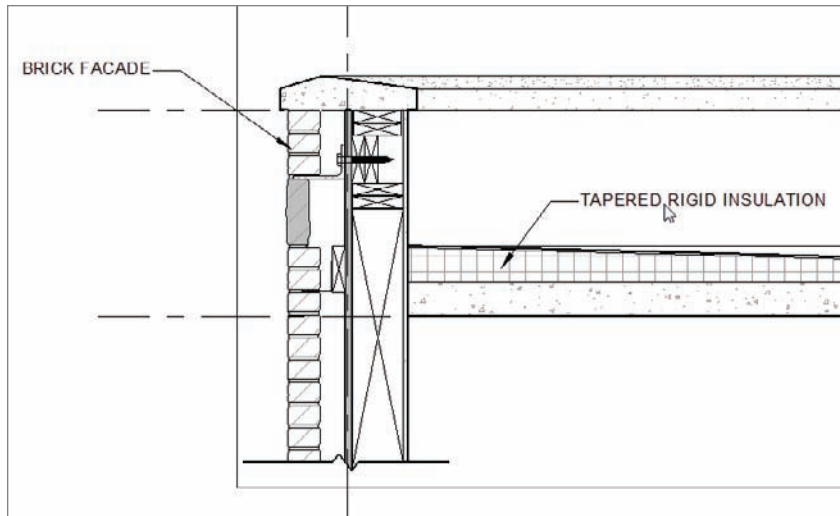

FIGURE 12.56 Add the note TAPERED RIGID INSULATION.
4. Click the question mark again and type **TAPERED RIGID INSULATION** (see Figure 12.56).